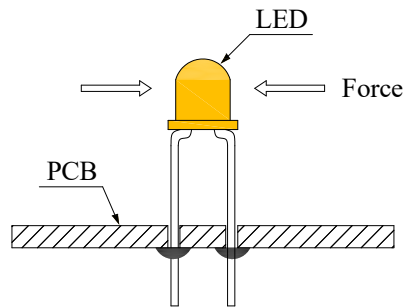

Fig. 9
4.6. After soldering or other high-temperature assembly, allow the LED to cool down to 50°C before applying outside force (Fig. 9). In general, avoid placing excess force on the LED to avoid damage. For any questions please consult with LuckyLight representative for proper handling procedures.